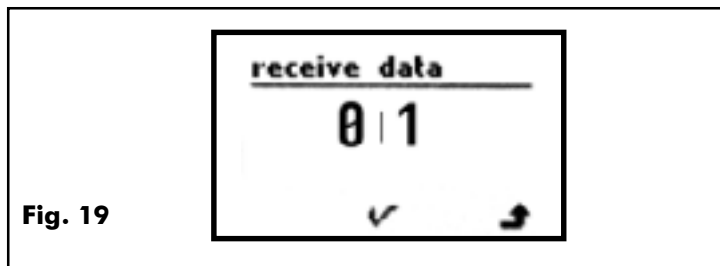

Fig. 19
- Then mobile control will change into the receiving mode (ref. To Fig. 19) and will wait until data transfer has been completed.